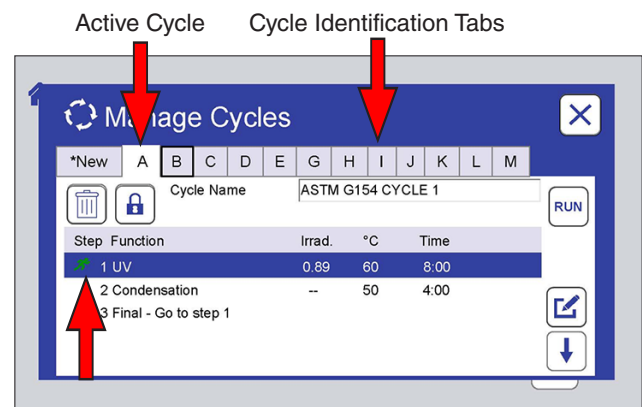

Figure 9.6.1b: Manage Cycles screen. The active cycle is displayed. The currently running step is indicated. Touch any ID tab to display that cycle.
- The Manage Cycles screen is displayed showing the active test cycle and the steps in the cycle, with the currently executing step indicated (Figure 9.6.1b).
- Each cycle is stored with an alphanumeric (A through M) identification tab (Figure 9.6.1b).